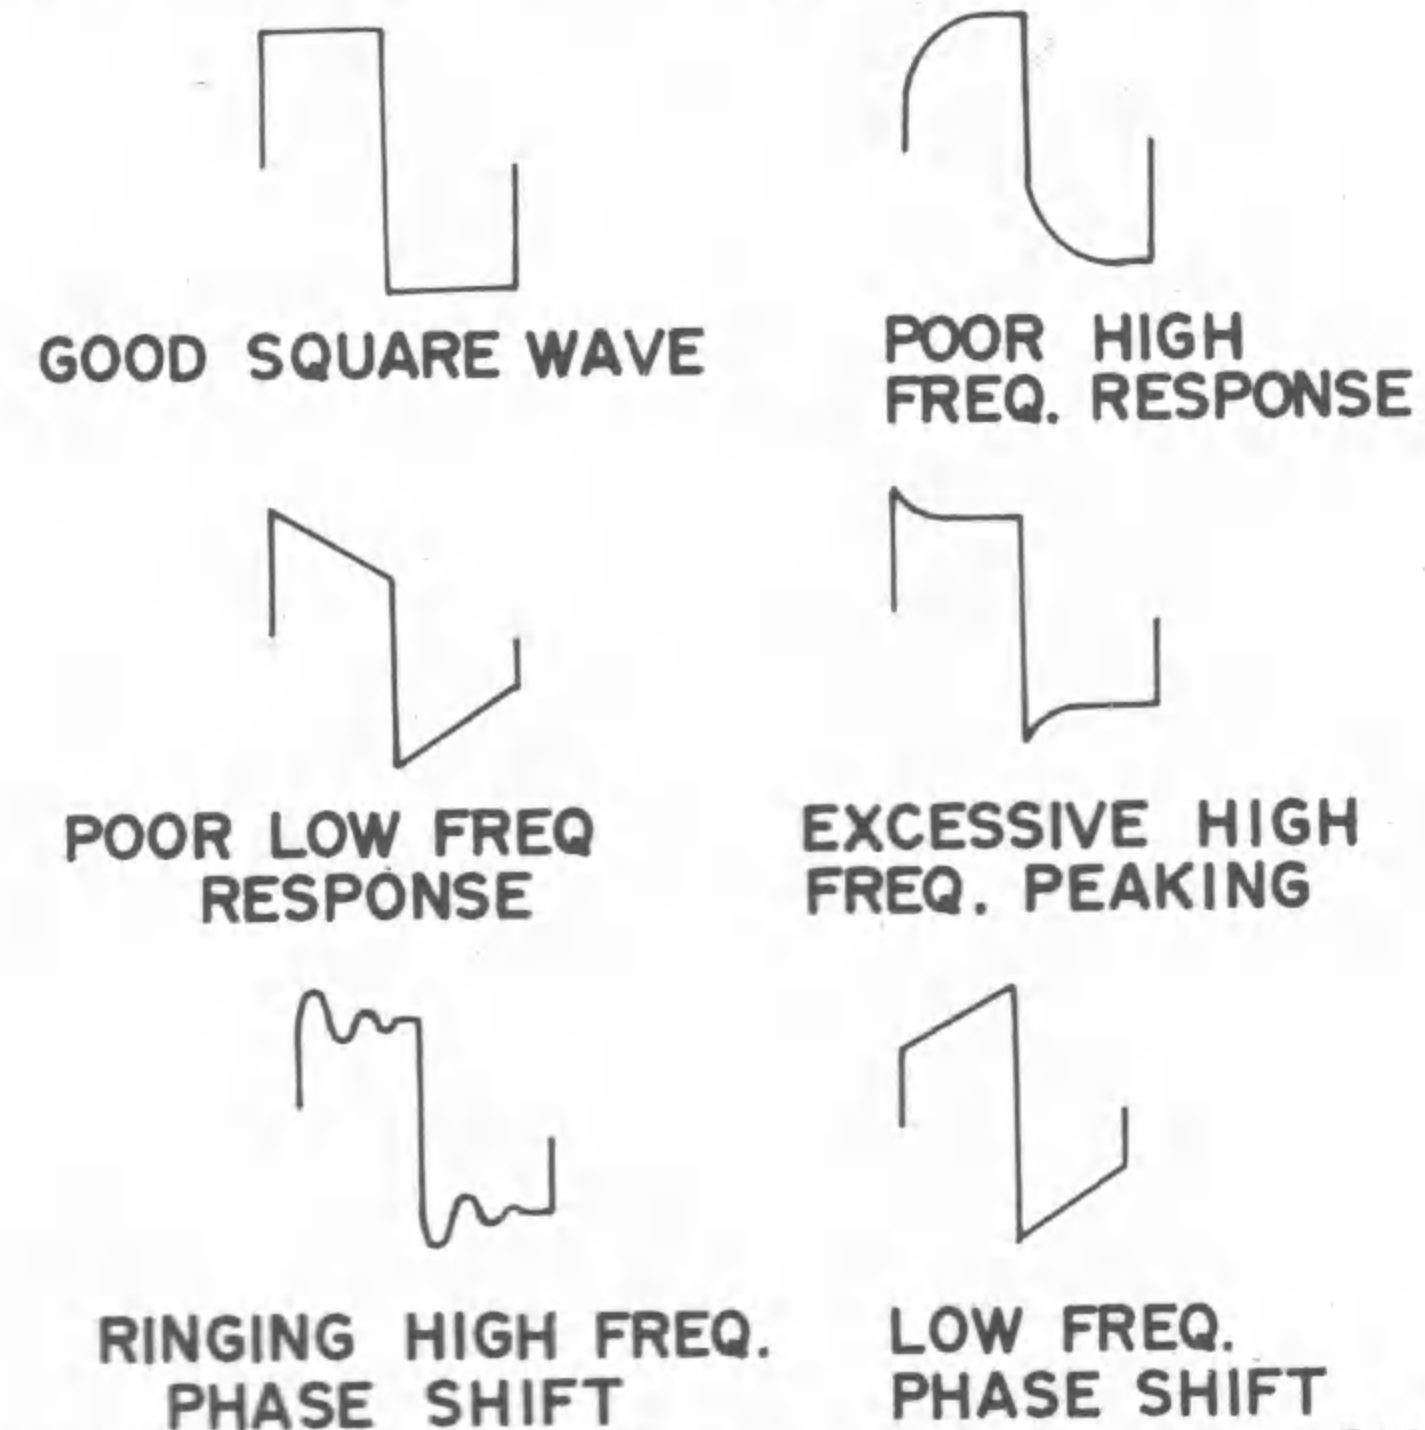

Fig. 13. Distorted square wave resulting from poor frequency response.
3. Compare the resultant waveform with the input and the ones shown in Fig. 13. The best check on audio amplifiers is to use a low frequency, a mid